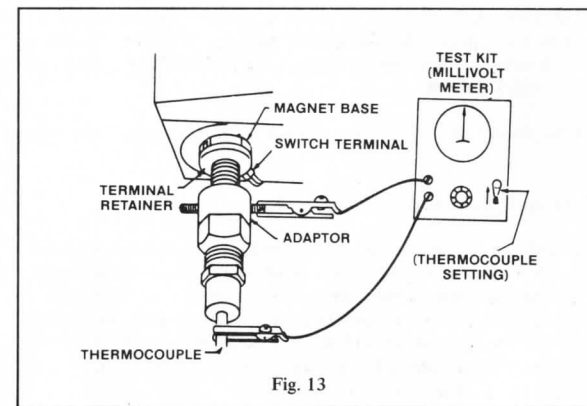

Fig. 13
- b. Connect Adaptor No. 75036 and Test Kit as shown in Figure 13, being sure connections are tight.
4. With adaptor connected as in Figure 13, check as follows: